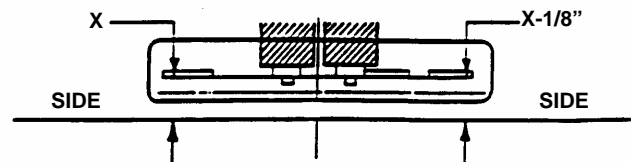

FIGURE 4.4
3. Rotate outside blades so tips are pointed to the sides of deck. See Figure 4.4. Measure the distance from blade tips to floor. If the measurement is within 1/8" from side-to-side, the deck levelness is satisfactory. If the difference from side-to-side is greater than 1/8", continue to Step 4 for adjustment.